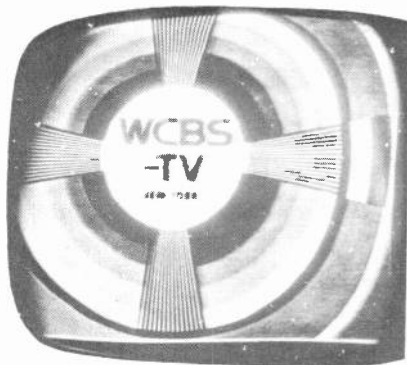

Fig. 4-C. *Shifting of pix by misadjusted focus assembly.*
**SYMPTOMS:** Picture has shifted. Dark, crescent-shaped area around the left side and bottom of the picture. See Fig. 4-C.